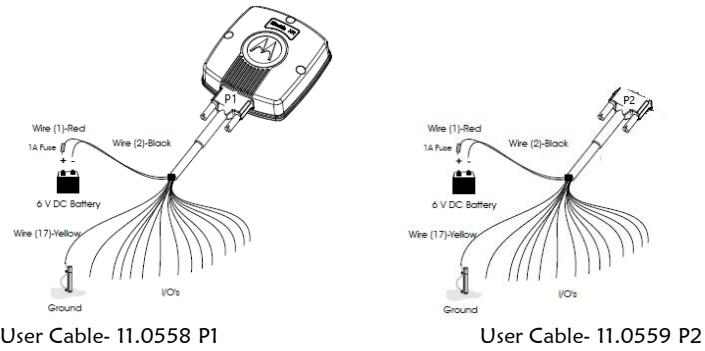

Figure 16
Connect the yellow wire (17) of the 11.0558 user cable to the PGND, as shown in Figure 16.
Use the 11.0558 and 11.0559 cables to connect the Piccolo XR Plus to an external battery. Connect Wire #1 (red) to the positive (+) pole of the battery through a 1A fuse (not supplied) and wire #2 (black) to the battery negative (-) pole. See Figure 16.